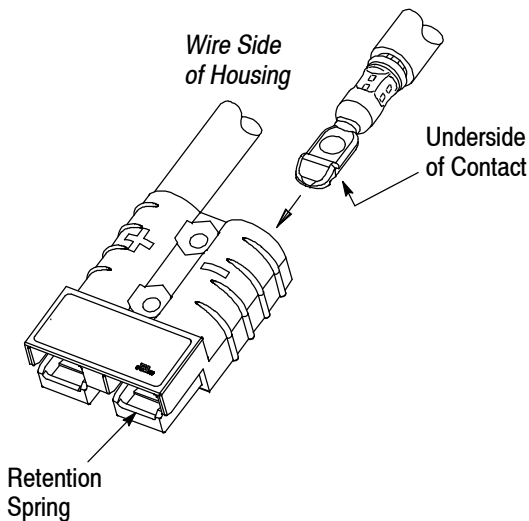

Figure 6
8. Refer to Figure 6, and install each contact into the housing as follows: